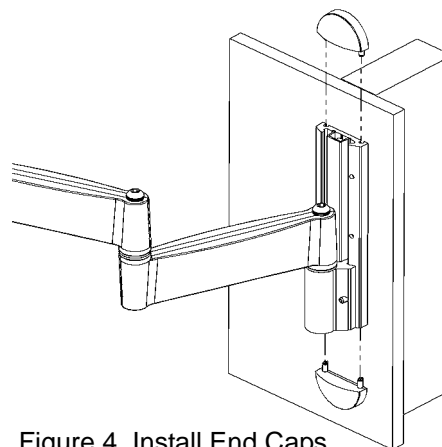

Figure 4. Install End Caps
- J. Install the end caps on the mount wall plate (see Figure 4).